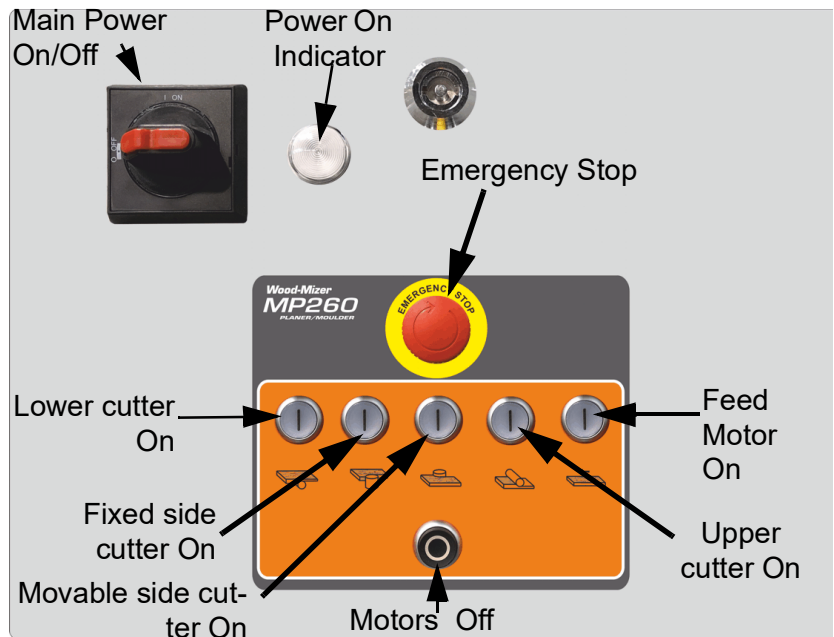

FIG. 3-25
1. Turn the machine on using the start button located on the control panel. See FIG. 3-25 .